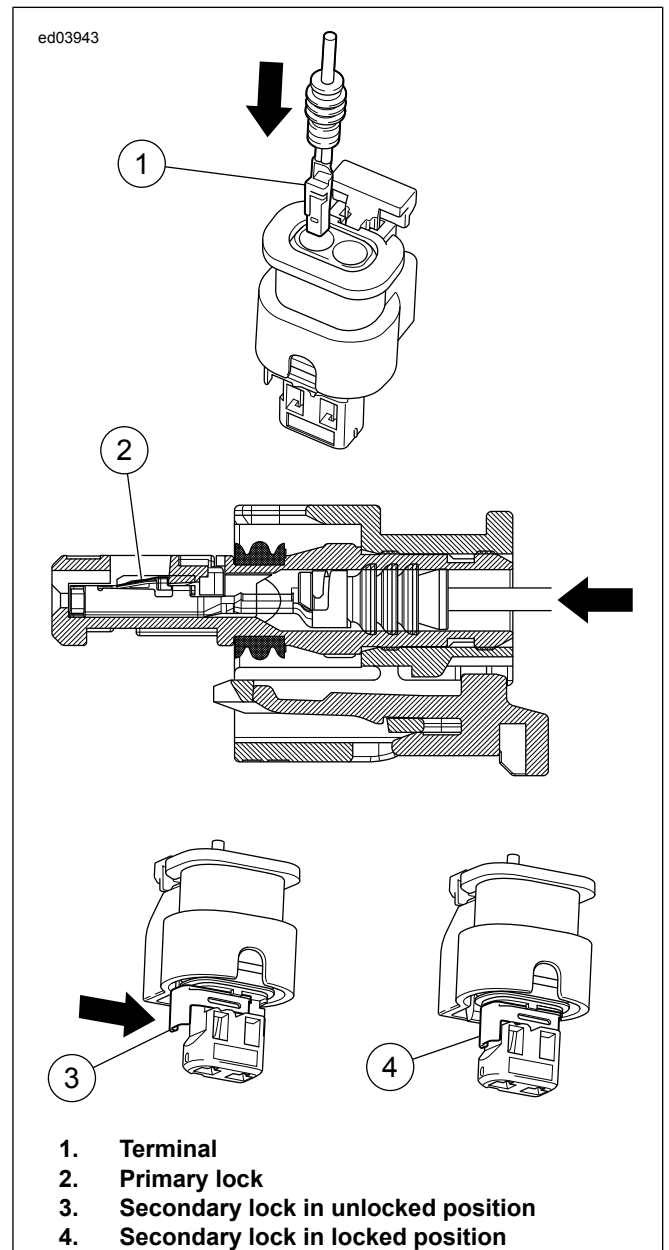

Figure B-50. Inserting Terminal
1. See Figure B-50. Insert terminals into connector until an audible click is heard or lock is felt.